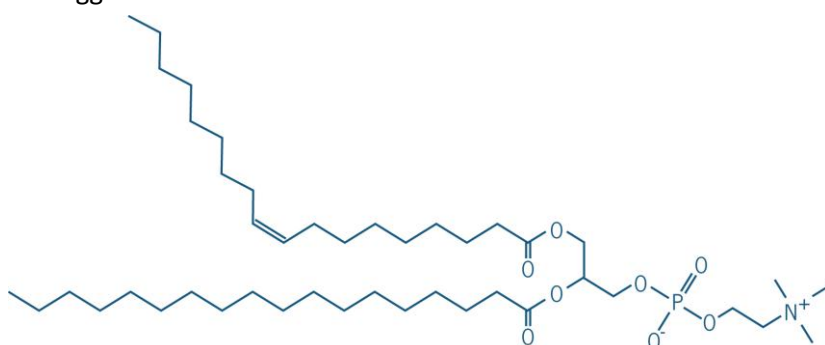

Figure 32 Phosphatidylcholine
There are about 5 grams of lecithin in one egg yolk. One of the emulsifiers in lecithin is phosphatidylcholine (Figure 32). Phosphatidylcholine has a hydrophobic tail and a hydrophilic head. The hydrophilic head will have interactions, such as hydrogen bonds, with water, and the hydrophobic tail will interact with fat and oil. You can make litres of mayonnaise with the yolk of just one egg.
1. Indicate the hydrophilic and the hydrophobic part of phosphatidylcholine in the structural formula (Figure 32).